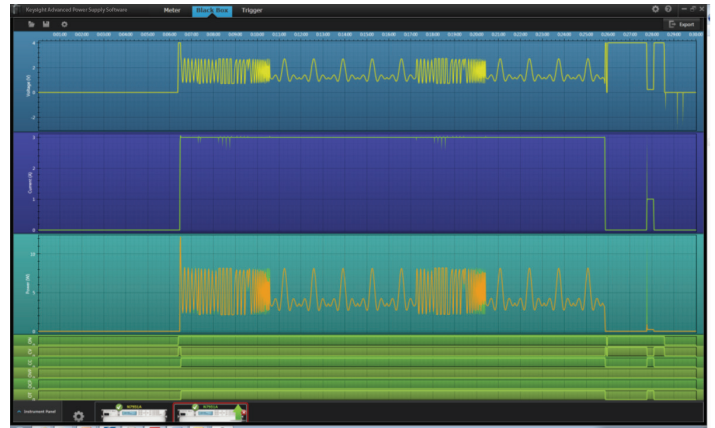

Figure 3. Black box recorder data displayed within the N7906A Power Assistant software.
Much like a flight data recorder, the optional black box recorder (BBR) runs continually in the background, independent of what the power supply is doing. When the power supply is on, the BBR is recording power events and storing measurements in non-volatile memory. The BBR can be set for either a 24-hour record or a 10-day record period. In the 24-hour mode, measurements are made at a rate of 100 per second, and in the 10-day mode they are made at a rate of 10 per second. The BBR data can be accessed via the free APS power assistant software (see Figure 3). The BBR option works on all APS N6900 and N7900 power supplies. It is a factory installed option available only at the time of purchase.
- Retrieve and view data from the optional APS power supply black box recorder (see Figure 3)